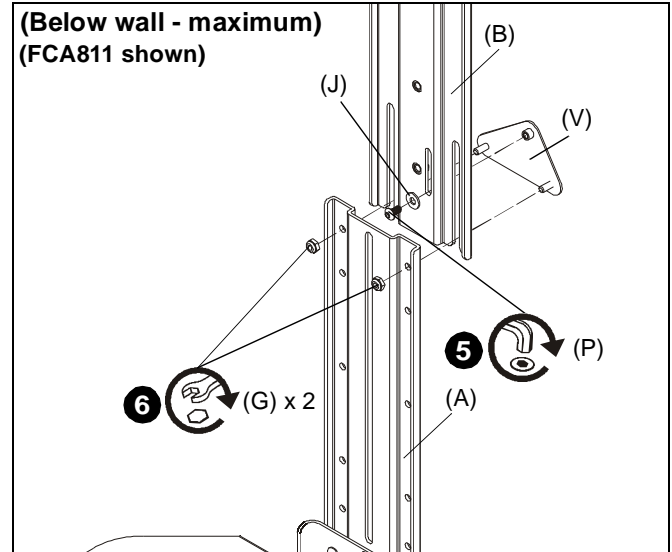

Figure 6
5. (For **maximum extension**) Use #10-32 x 3/8" button head cap screw (P) and small washer (J) to secure adapter plate (V) to main bracket (B). (See Figure 6)
6. (For **maximum extension**) Use two #10-24 lock nuts (G) to secure upright bracket (A) to main bracket (B) and adapter plate (V). (See Figure 6)